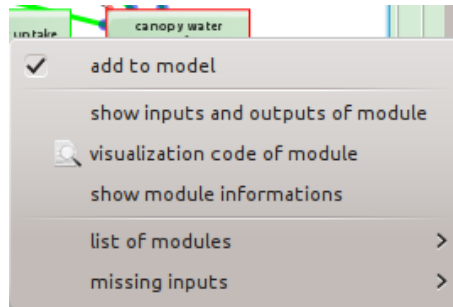

Figure 47: Consultation of errors from the graphical representation of a module
- **From the graphical representation of the module** Position your mouse cursor on the graphical representation of the process/module in error (represented by a rectangle with a red outline) and display the context menu by right-clicking. Then select the “Show inputs and outputs of module” item (see figure 47).